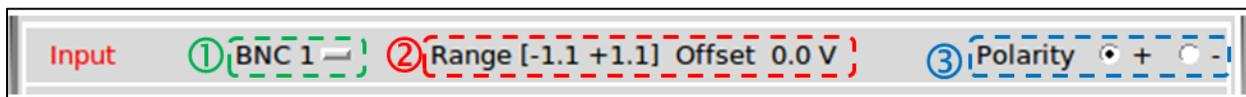

Figure 8: The raw signal parameters.
In this module, the user has to define the raw signal (cf. Figure 8). That means:
The FASTER-SAMPLER process uses positive values. If the detector provides a negative signal, it is essential to convert it into a positive signal, with selection check button ③ (Figure 8).